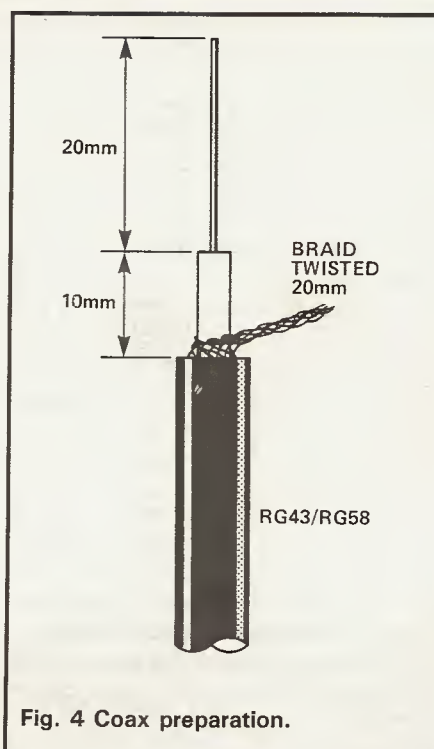

Fig. 4 Coax preparation.
11. Carefully mark the coax outer level with the top of the lower dipole element, and, as the antenna is disassembled, level with the bottom of the stub element (for alternative mounting method). Prepare the top of the coax as shown in Figure 4 and strip away the outer insulation sufficiently to solder to the braid for the alternative method at the stub bottom.